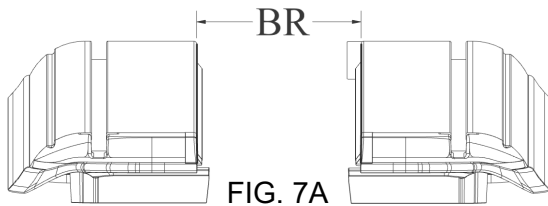

FIG. 7A
Check for proper spacing by measuring between the rails at the canister and the tailgate end of the rails (Fig 7A). The measurement should be equal to or less than those in Fig 7B. The Rail Brackets and Shims have been pre-installed to achieve the proper Between the Rail dimensions (BR) when placed on an average factory truck bed. However, not all truck beds are average dimensionally and some have optional plastic caps or over the rail spray-in bedliners.
Verify the BR Dimension after the rails are leveled (STEP 7, FIG. 7A & FIG. 7B)